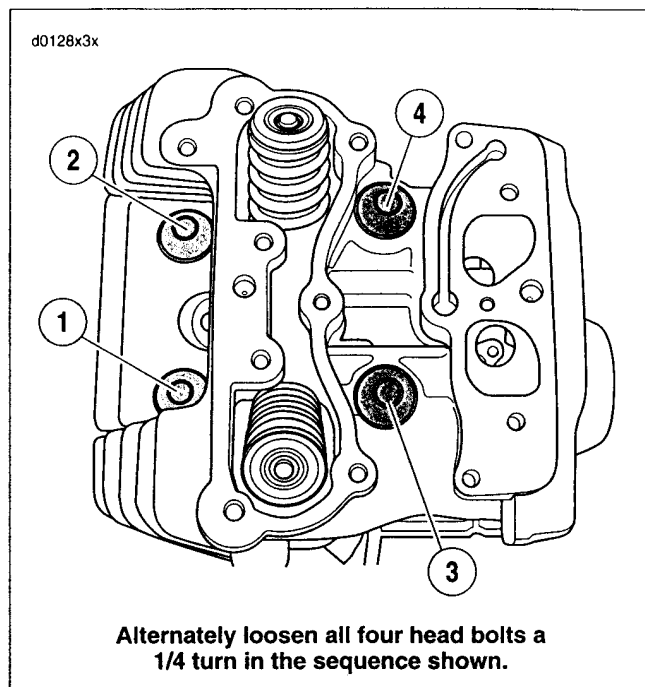

Figure 3-25. Cylinder Head Bolt Removal (Rear Cylinder Shown)
- See Figure 3-25. Remove cylinder head bolts.